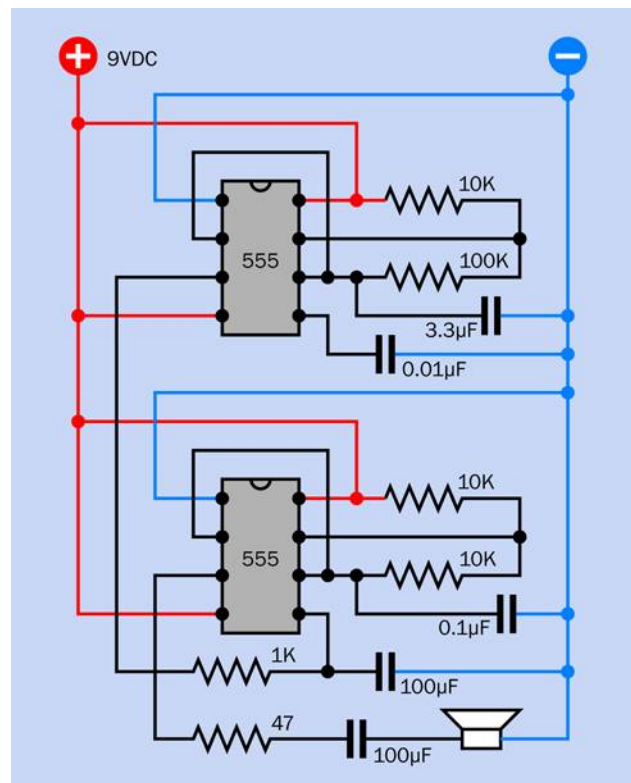

Figure 4-36 When one timer runs relatively slowly, modulating another through its control pin (pin 5), the result is a wavering sound like an alarm siren.
The circuit is shown in Figure 4-36. Timer 1 is wired in a basic astable circuit, which you can recognize as being similar to the circuit in Figure 4-22. The component values are larger, so the timer oscillates more slowly, around 1Hz. You can compare this circuit with the one that I suggested in Figure 2-120. The principle is similar.
- Components shown in Figure 4-36
If you prefer to have a sound that's all your own, you can use the circuit that I showed in Figure 4-36. Just use the output from your relay to power this circuit, and you have your own sound.